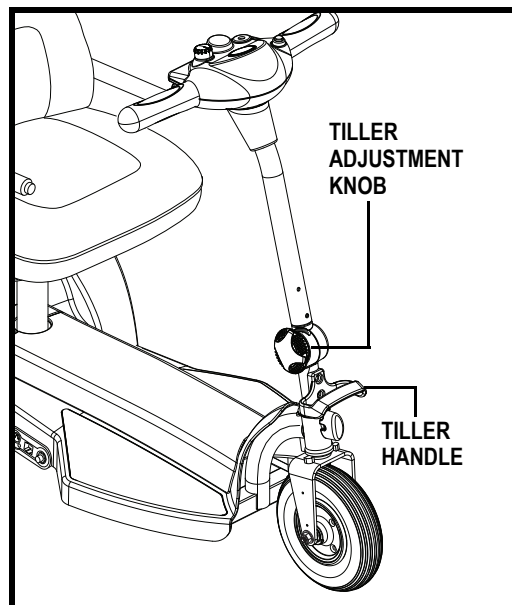

Figure 6. Tiller Adjustment
1. While supporting the tiller, turn the tiller adjustment knob counterclockwise to loosen the tiller. See figure 6.
The tiller handle is located below the tiller adjustment knob (see figure 6) and should be used when lifting the front end of the Travel Scooter during storage or transport. Make sure the tiller lock knob is in the locked position before using the tiller handle to lift the Travel Scooter.